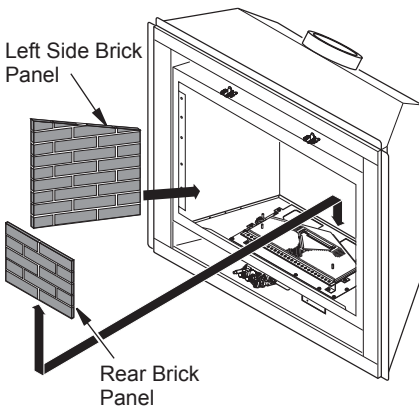

Figure 44 - Installing Rear Brick Panel
- Install rear brick panel first. Rest bottom edge of panel on back edge of burner assembly (see Figure 44).
- Install left side brick panel by sliding it between burner assembly and side of firebox (see Figure 44).